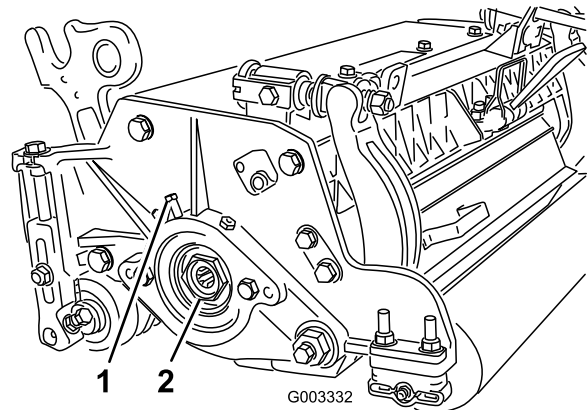

Figure 27
- A. Loosen the external setscrew securing bearing-adjusting nut to the bearing housing located on the left side of the cutting unit (Figure 27).